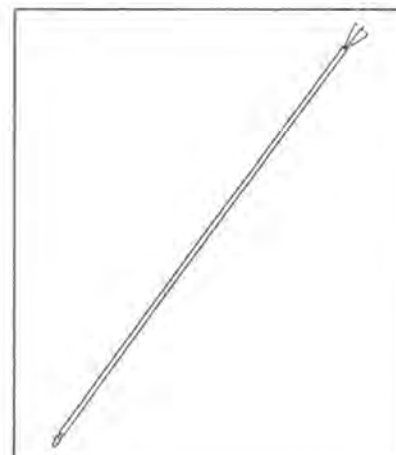

Figure 8-4
- m. Thread starter rope through rope handle, using starter rope threading tool (Service Tool #378774) (see Figure 8-4). Thread rope through anchor, and press rope into channel in rope anchor (see Figure 8-2), with end of rope butting firmly against end of channel. Press rope anchor into handle. Remove knot in starter rope and allow pulley to rewind.
- d. Thread rope through starter handle, using starter rope threading tool (Service Tool #378774) (see Figure 8-4). Thread rope through rope anchor, and press rope into channel and rope anchor (see Figure 8-5), with end of rope butting firmly against end of channel. Press anchor into handle.